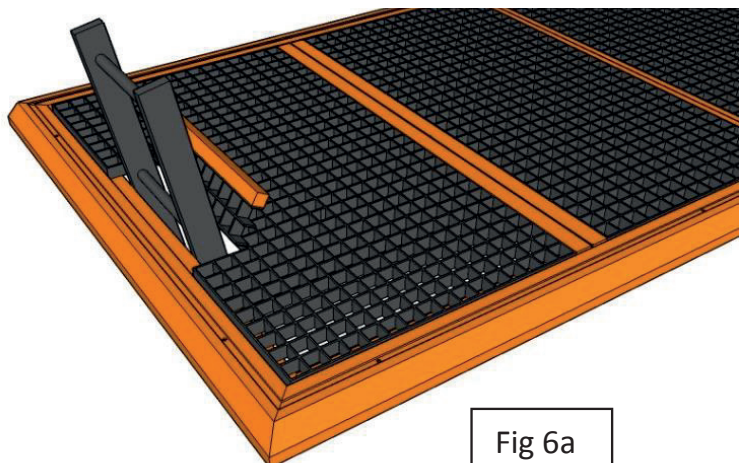

Fig 6a
8. To **install an access ladder** open the small flap and push the ladder through (Figs 6a & 6b). The ladder must protrude through the hatch by at least 1m for improved access off the ladder and making it more prominent in the floor chamber to reduce the trip hazard. Tie the ladder legs in place with cable ties fed through the holes located in the frame either side of each leg. Pull ties tight to stop any movement of the ladder when in place.